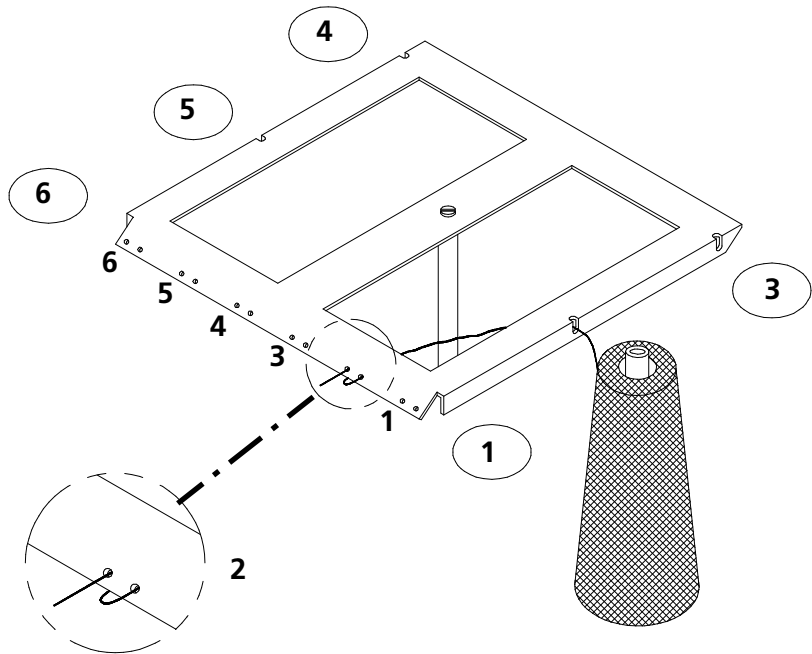

Figure 2-4
3. Along the front of the thread tree are six pairs of holes. Figure 2-4 shows which pair of holes corresponds to each thread cone position. The thread should be routed through the pair of holes as shown in Figure 2-4.